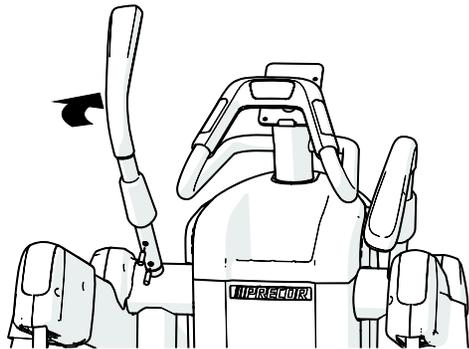

Figure 18
2. Rotate the handlebar exactly one half turn (180°) (see Figure 18).